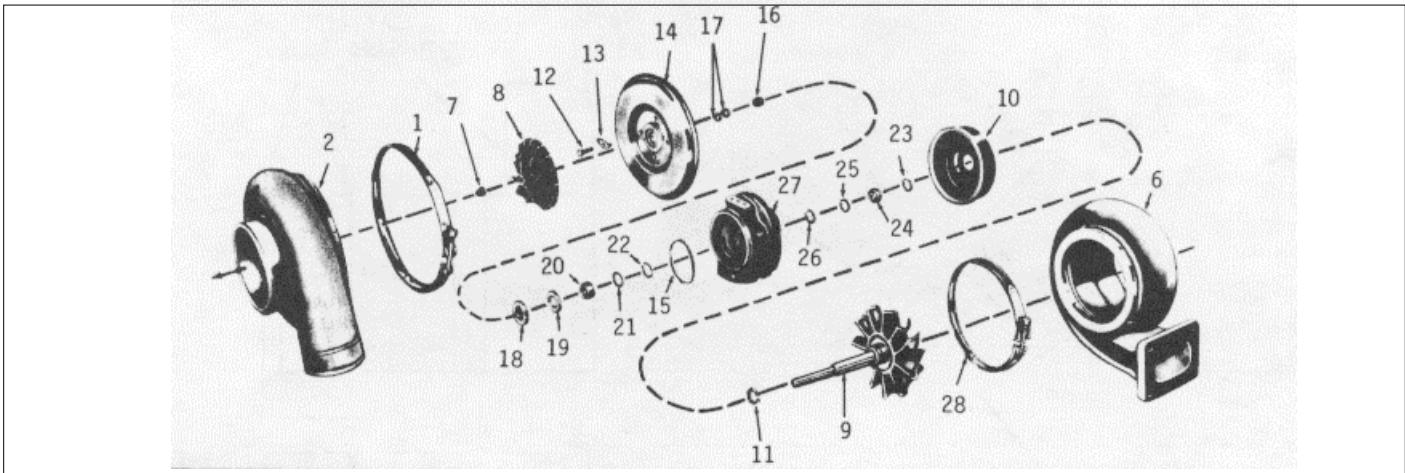

Fig. 6
- (1) Refer to Fig. 6 and loosen the "V" band coupling (1) securing the compressor housing
- (2) to the backplate assembly (14) and remove the compressor housing and "V" band.
Refer to Fig. 6 for parts orientation and proceed as follows: